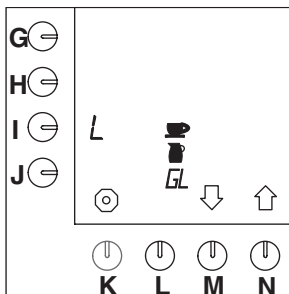

Fig. 21 Units to be selected
- A selection can be made from the following units: Litre = L, Gallon = GL (3.7853 L), Jug, or Cup (fig.21).